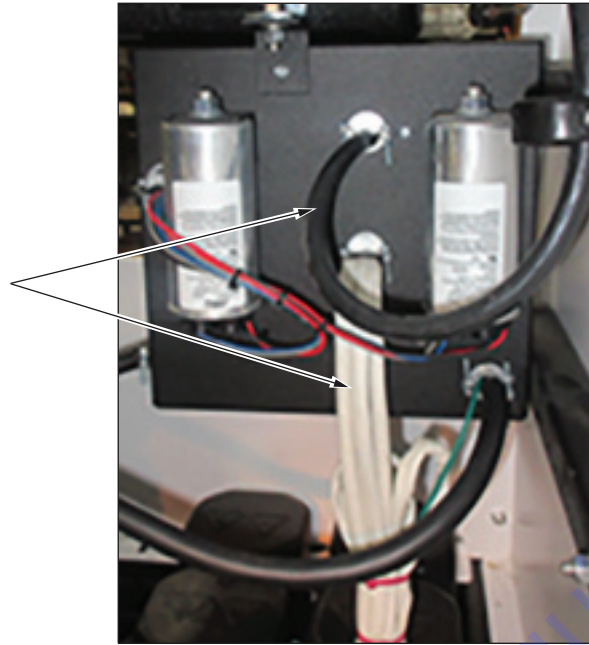

Figure 16 - Remove Cables
9. See *Figure 16*. Remove cables from upper and middle strain reliefs.